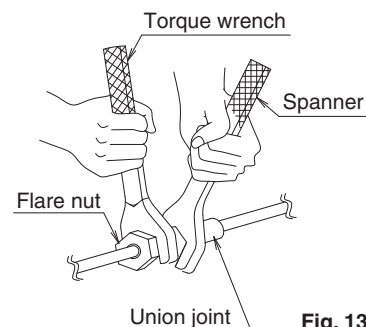

Fig. 13
- When connecting the pipings to the air conditioner, make sure to use a spanner and a torque wrench as shown in Fig.13. For the dimension of flared part, refer to the Table 1.